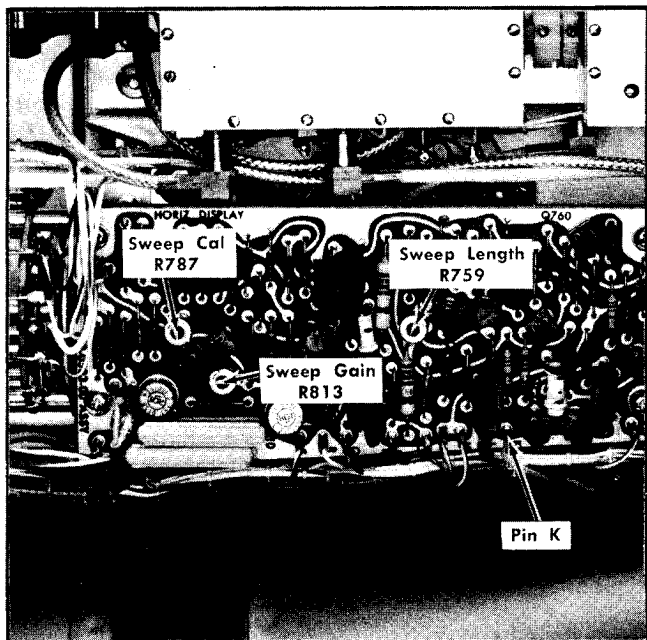

Fig. 6-15. Location of trigger and sweep adjustments.
- Adjust the Sweep Length R759 (see Fig. 6-15) for a 7.5 V peak to peak sawtooth waveform on the test oscilloscope
c. Preset the Sweep Cal R787 to midrange. Adjust the Sweep Gain R813 (see Fig. 6-15) for 10.5 divisions of sweep length. Adjust Sweep Cal R787 for 1 marker per division. Sweep timing must be within $\pm 3\%$ (1.2 minor divisions) over the center 8 graticule divisions.